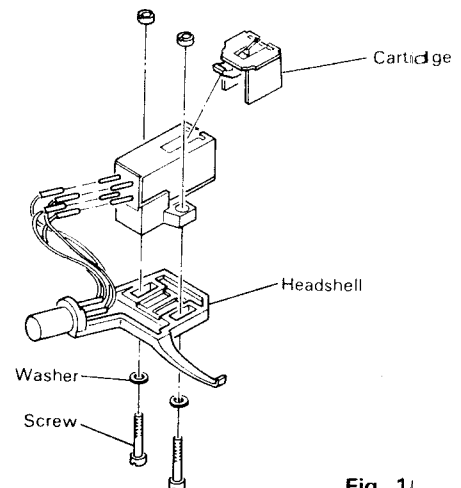

Fig. 14
### 5-(2) Mounting Cartridge (Fig. 14)